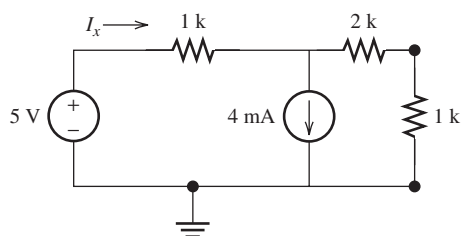

FIGURE P3.64 Circuit for Problem 3.64.
- 3.64** (A) Find I_x in Figure P3.64 using the principle of superposition.
- 3.65** (A) Use the principle of superposition to find the power dissipated in the 2-k Ω resistor in Figure P3.64.